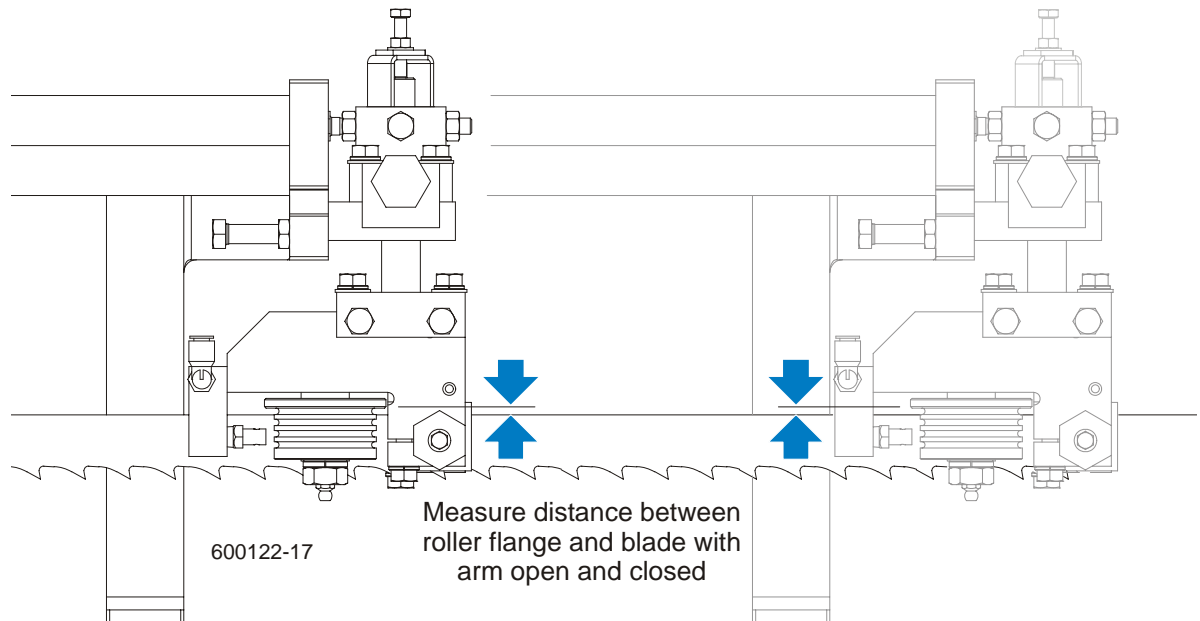

**FIG. 5-27**
**See Figure 5-27.** Loosen the jam nuts and turn the adjustment bolts in to tighten the blade guide arm